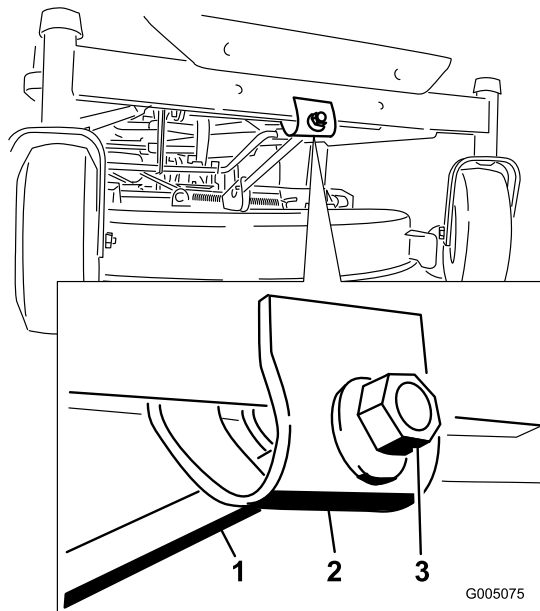

Figure 42
7. To adjust the front-to-rear blade slope, rotate the adjustment nut in the front of the mower (Figure 42).